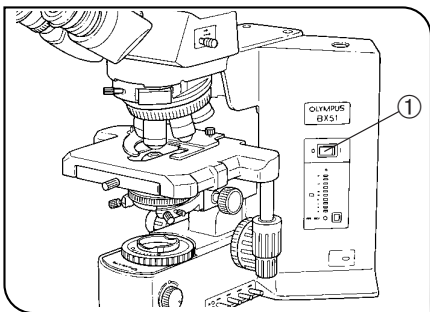

Fig. 1
## ⚠ SAFETY PRECAUTIONS (Fig. 1)
5. To avoid potential shock hazards and burns when replacing the light bulb, set the main switch ① to "●" (OFF) then disconnect the power cord from the wall outlet in advance. Whenever you replace the bulb during use or right after use, allow the lamp housing, and bulb to cool before touching. (Fig. 1)